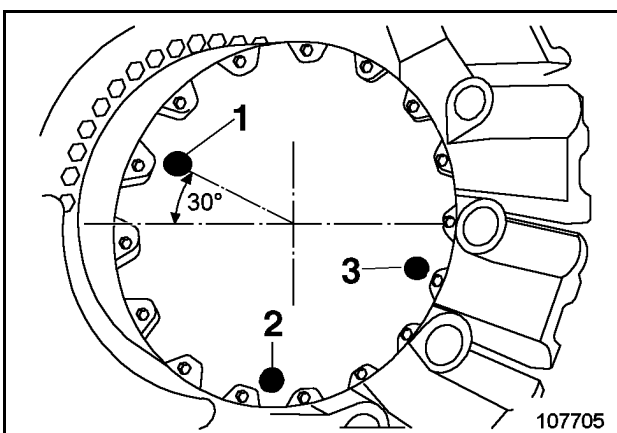

Fig. 3-132:
- Move the excavator into such a position that the screw plugs (1, 2 and 3, Fig. 3-132:) are in the displayed position.
- Unscrew checking screw (1).